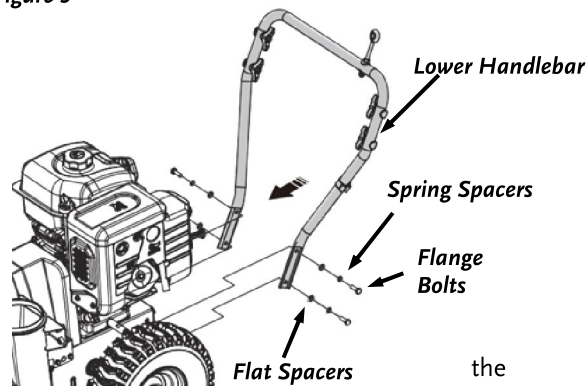

Figure 6
1. Remove the four M8x25 Flange Bolts, Spring Spacers, and Flat Spacers from Frame (**Figure 6**).
2. Install Lower Handlebar into two holes located on each side of the Frame (**Figure 6**).